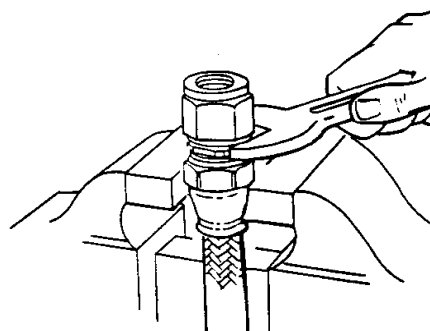

Figure 8. Removing Nipple From Socket
- Step 2. Place socket in vise and remove nipple assembly by applying wrench to nipple hex. (See Figure 8.)